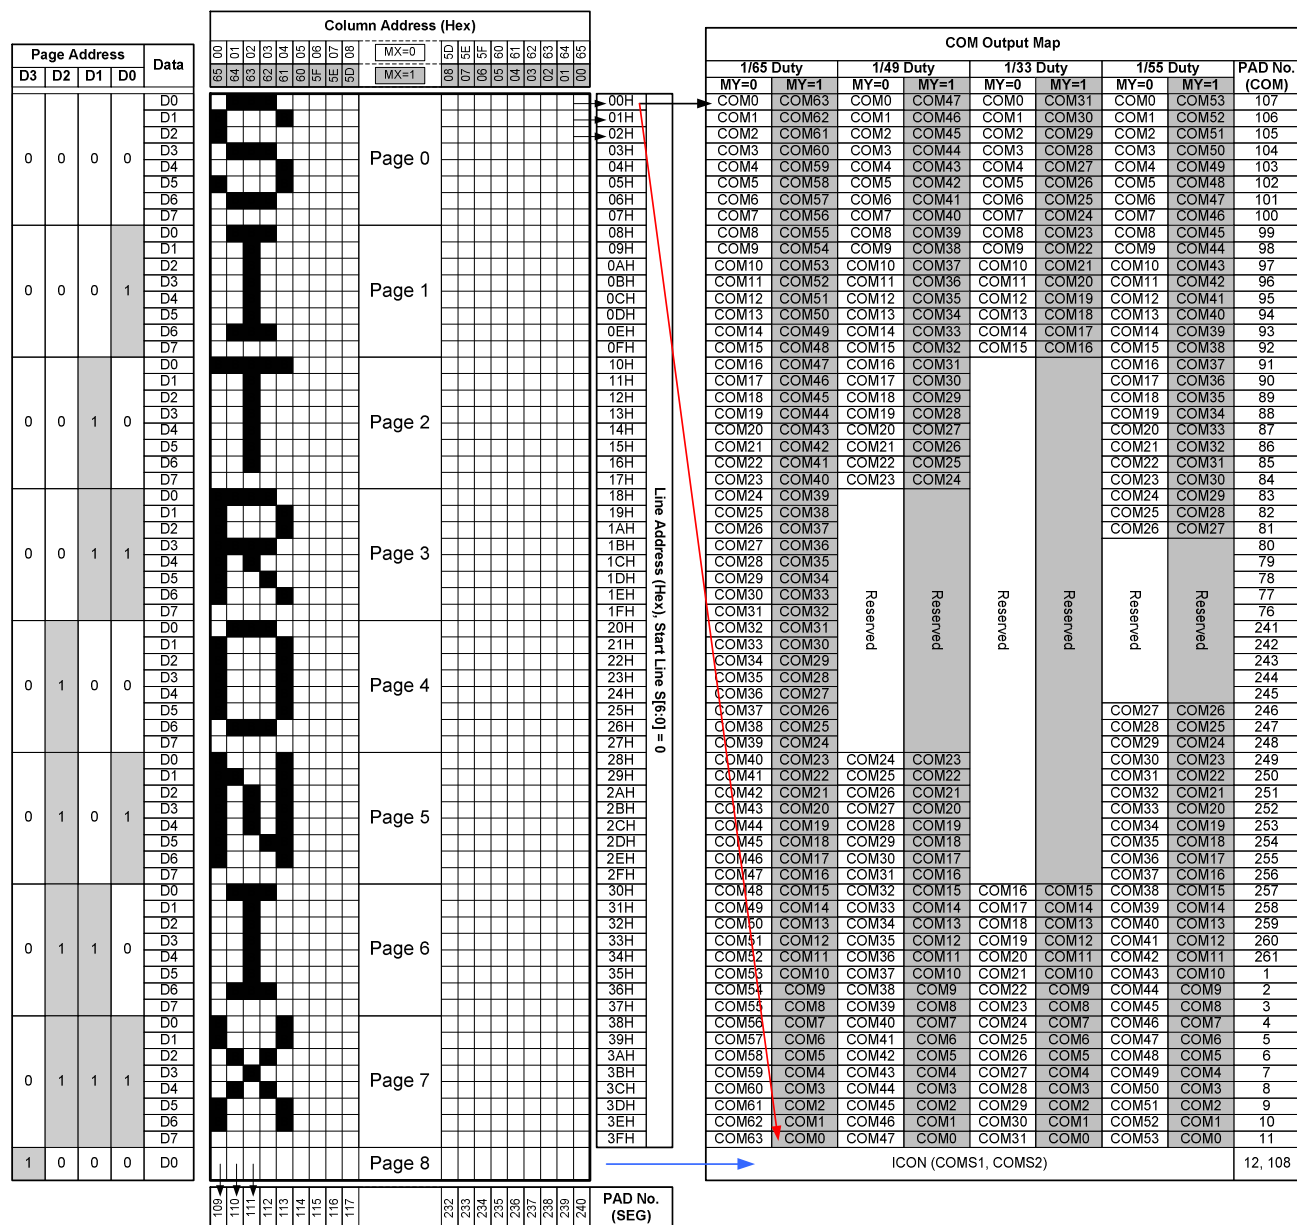

Fig 9. DDRAM and Output Map (COM/SEG)
1. The detailed definition of output pin name can be found in Fig 9.